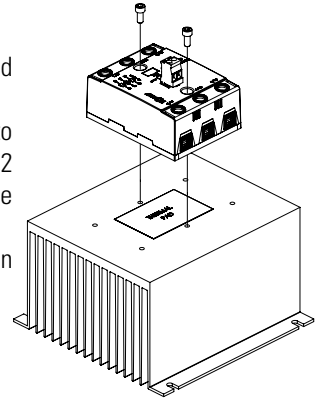

fig.1 SSR mounted on HS053 heat sink
- SSR housing mounting holes have a diameter of 0.341 in (8.66 mm). Two screws are needed to mount the SSR onto a heat sink (See fig.1). Mounting screws are sold separately as HK8. Otherwise, recommended screw size is 8-32 (socket) using an allen wrench (9/64 in) for the installation. Choose screw length considering mounting surface hole depth and SSR baseplate thickness of 0.125 in (3.2 mm).